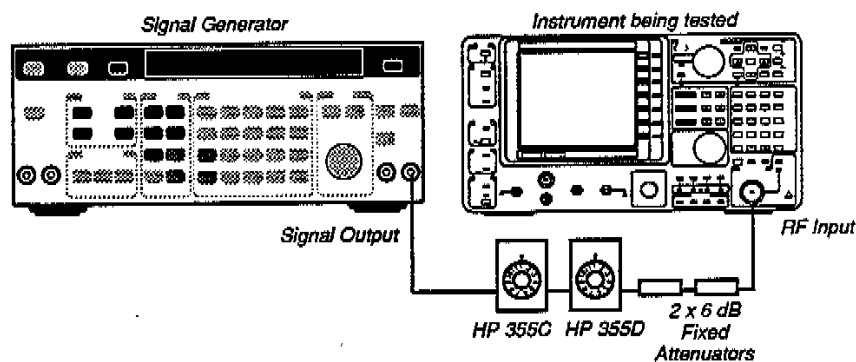

Figure 4-15. Test Equipment Setup for Steps 77 and 78 of the Marker Counter Check.
12. Disconnect the 50 Ω cable from the instrument and connect the signal generator to the RF INPUT connector through a set of step attenuators and two 6 dB fixed attenuators (as shown in Figure 4-15). Set the signal generator for a signal output frequency of 100 MHz and an amplitude level of 12 dBm.